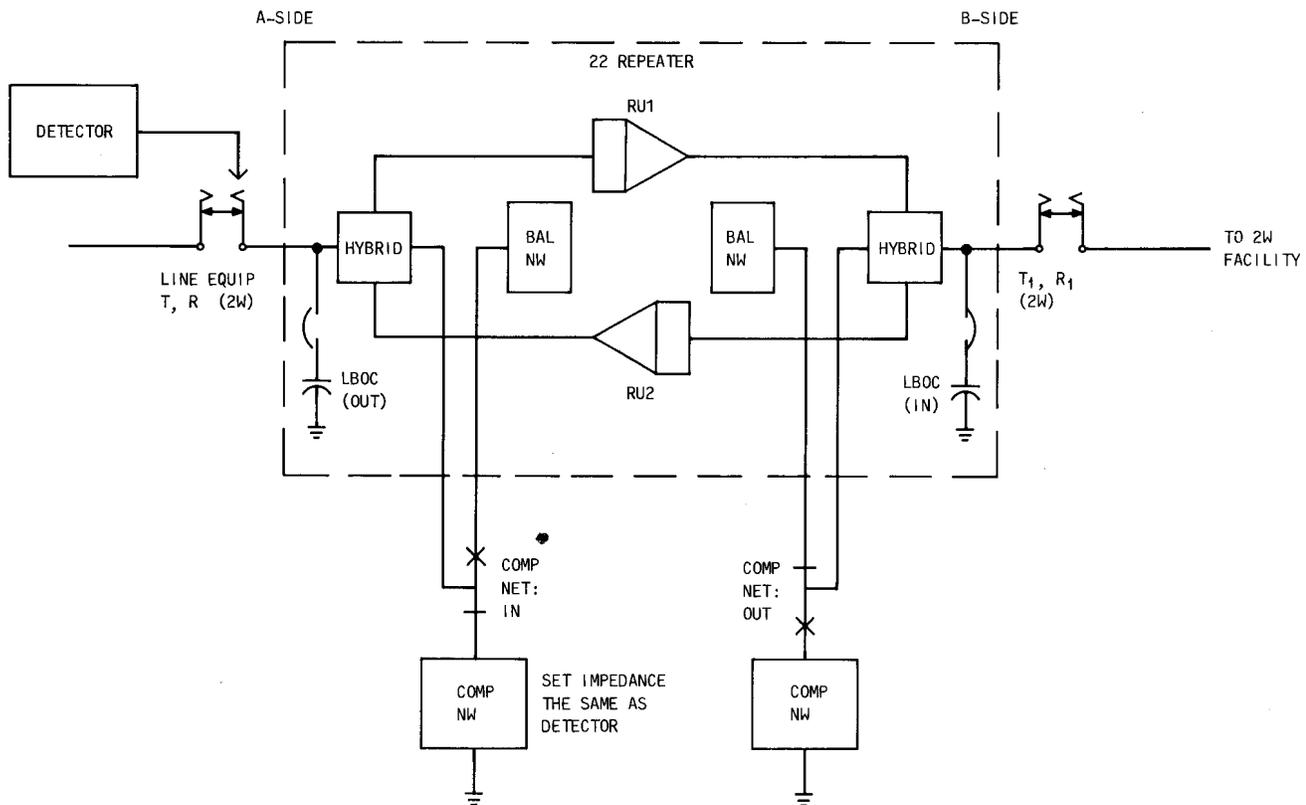
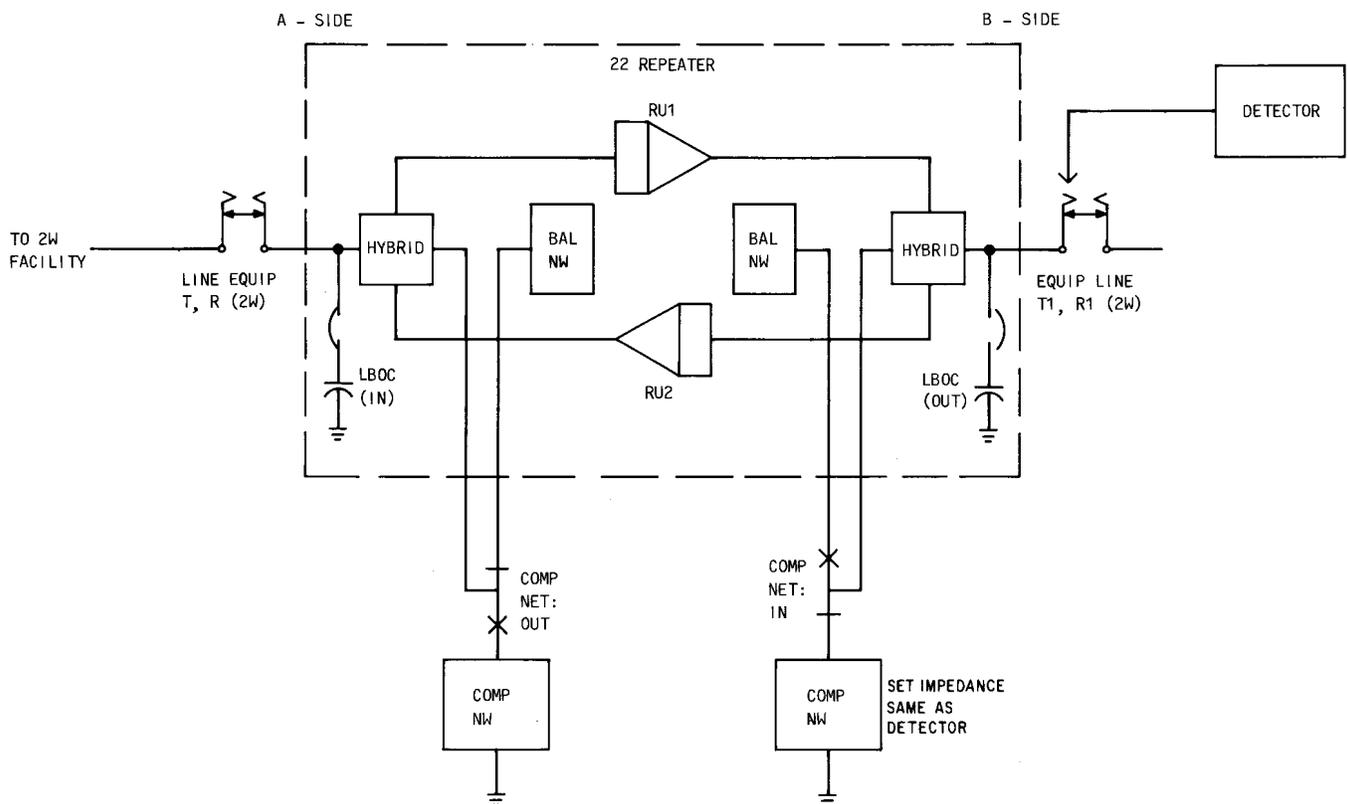

Fig. 4—Test Configuration for Setting A-Side Level
Fig. 5—Test Configuration for Setting B-side Level
- 6.07** The test configuration shown in Fig. 4 is for A-side level adjustments and Fig. 5 is for B-side adjustment.
12	Connect the detector to the appropriate 2W EQUIP jack on the test extender (see Fig. 4 or 5).